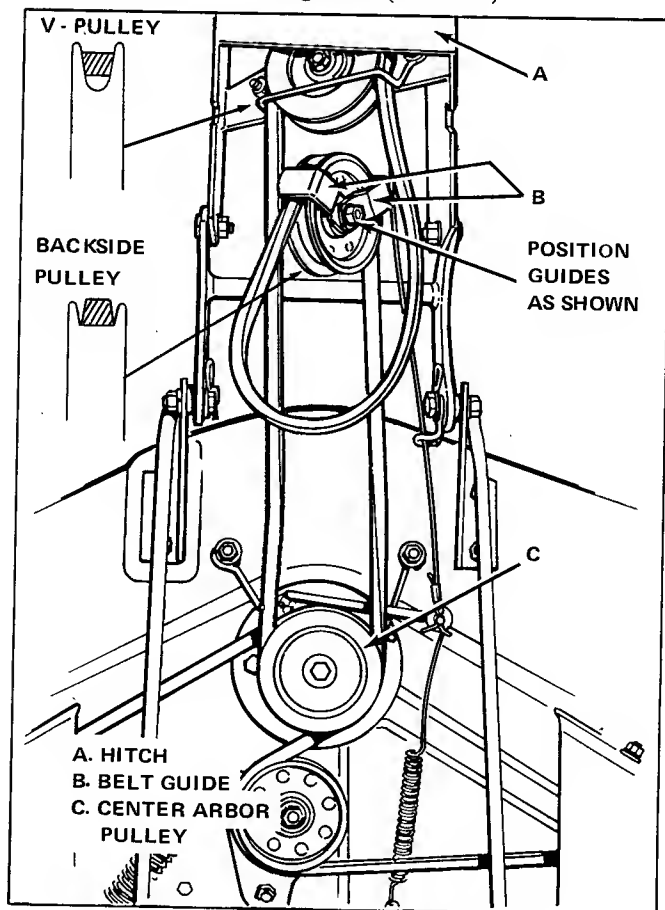

Figure 28. 42" Mower Belt Replacement
2. Loosen, but do not remove the two capscrews holding the front cover onto the mower hitch (item A, figure 28). Remove front cover.
4. Remove the old belt from center arbor pulley (item C) and the hitch pulleys. Replace with a new belt of proper size and type. Make sure the belt is properly installed and twisted as shown in figure 28.
5. Reinstall the belt guides (items B) on the idler pulley. Position belt guides as shown in figure 28 and tighten them in place.